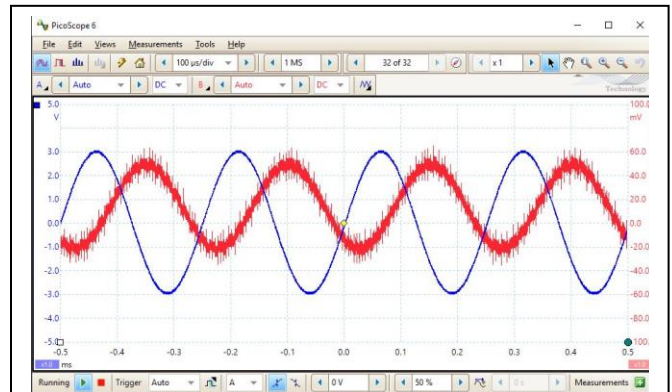

Fig 26 The output at 4 kHz is getting noisy.
- Comment below on the signal quality. Note that Figure 26 shows the results at 4 kHz. Given the noisy nature of the signal, it will be hard to measure V_{pp} precisely. A good approach is to measure from the center of the fuzzy trace.